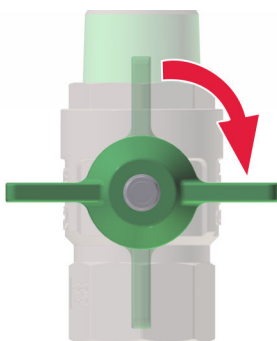

Fig. 48: Closing the ball valves
1. ➤ Close all the ball valves (Fig. 48).